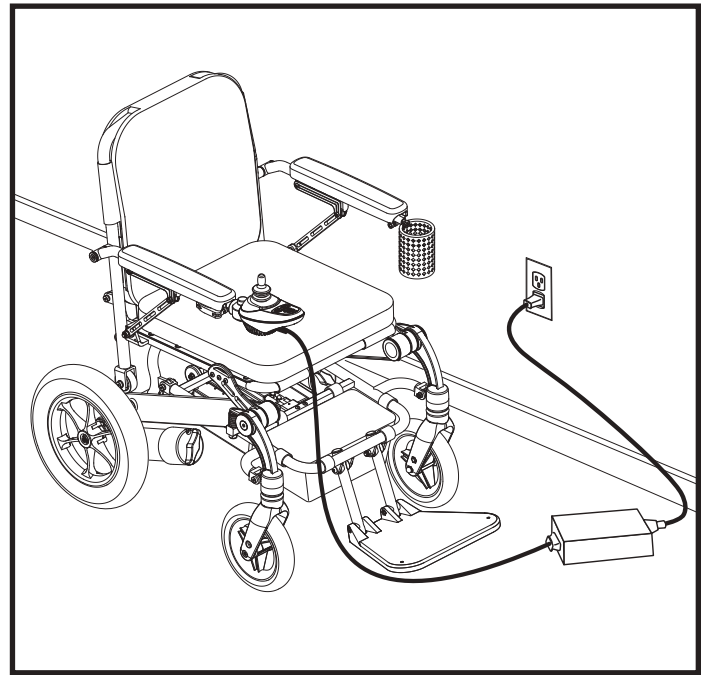

Figure 12. Battery Charging using the Off-board Charger
3. Plug the off-board charger into the off-board charger/programming socket of the controller. **See figure 12.**